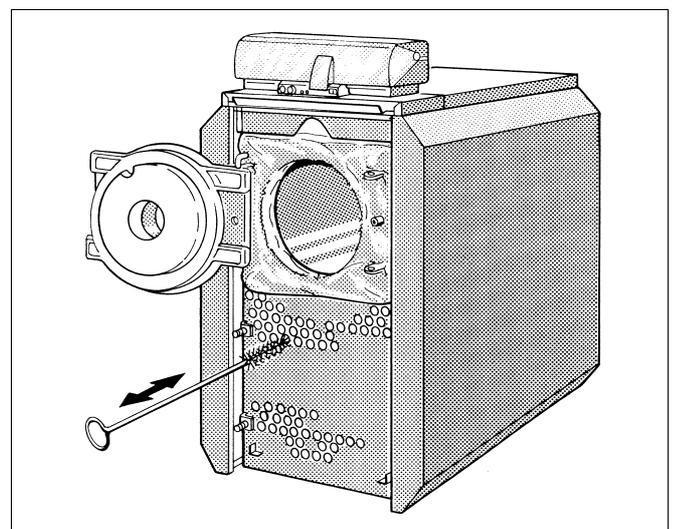

Fig. 30 Brush cleaning
- Brush out the secondary heating pipes (Fig. 30).